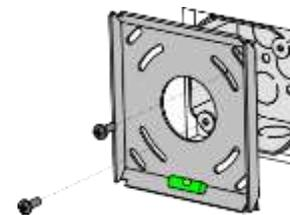

Figure 2
2. Install the Quick Mount Bracket to a junction box (hardware provided by others) [Figure 2].